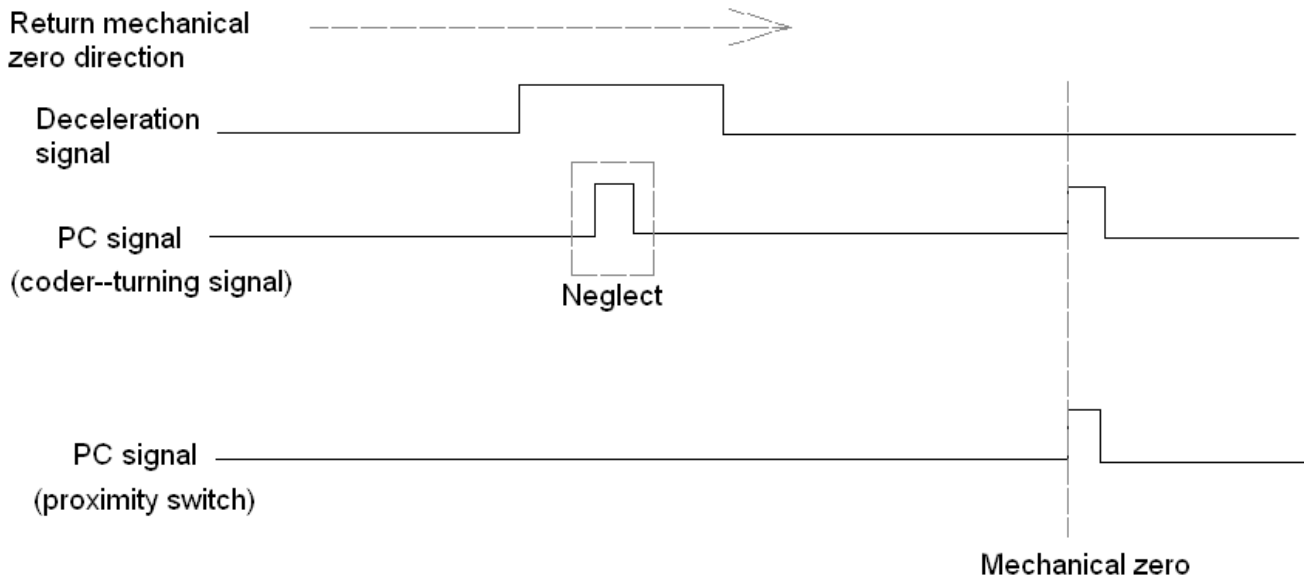

Fig. 2-8 PC signal oscillogram
a): The user should provide the wave of PC signals shown in Fig. 2-8: